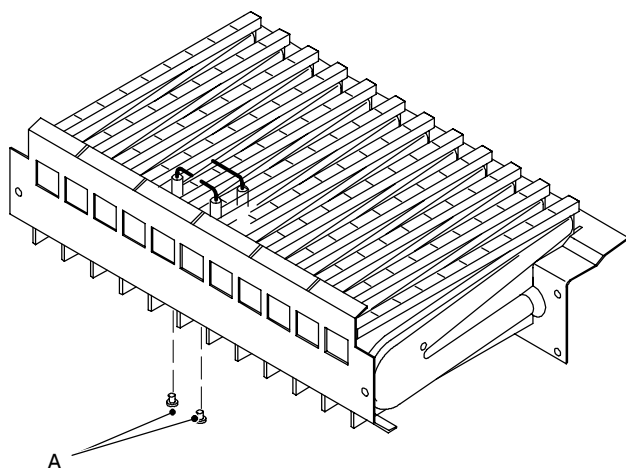

Fig. 66
- 4 Unscrew the screws A (Fig. 66) which hold the electrodes to the burner.